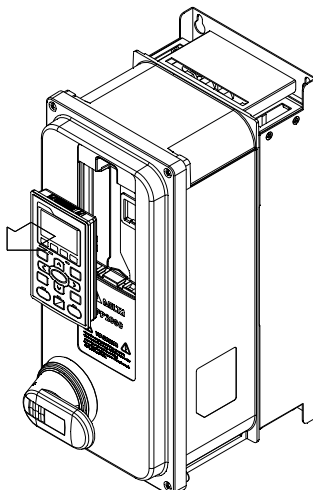

Figure 2
1. Remove the keypad (as shown in below figure 2).